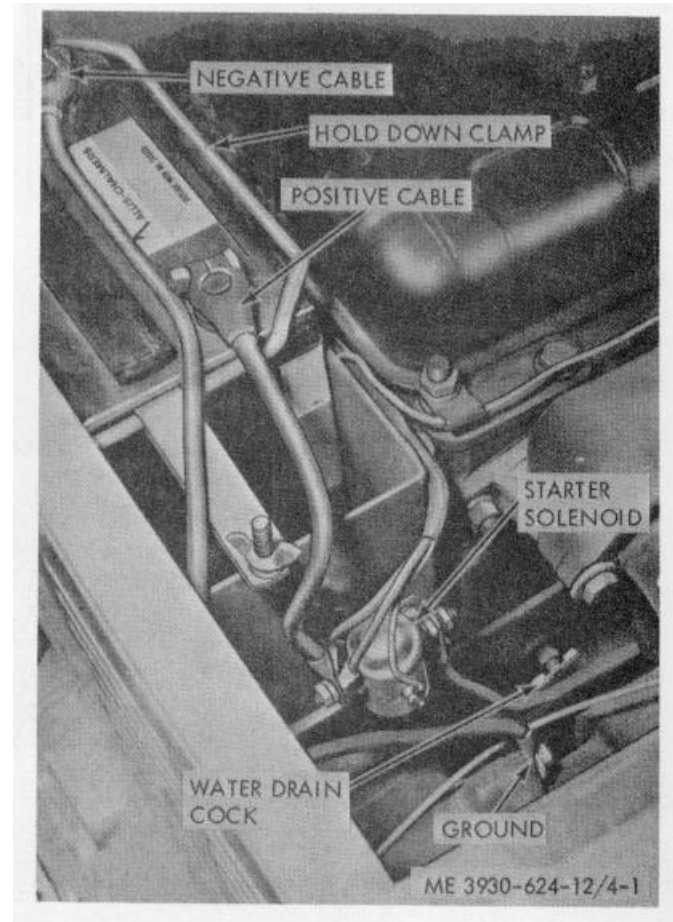

Figure 4-1. Battery connections.
c. Connect the battery cables to the corresponding battery posts as shown in figure 4-1.